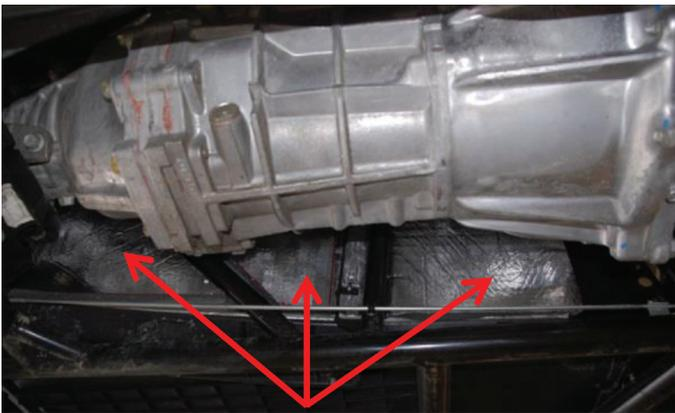

FIG 3A Driver Side
STEP 5. Start with the driver side pieces, peel and stick them into place over the top of the existing heat shielding. (Fig. 3a) Again, installation is easiest if you score the release liner and peel the backing off in sections. Repeat the process for the passenger side (Fig. 3b)